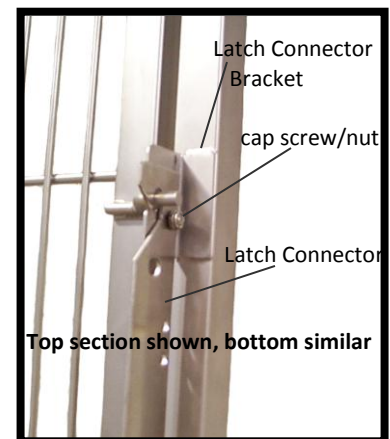

Figure 62: Removing the Latch Connector
2. With a Phillips screwdriver and a 7/16in. wrench, remove the two cap screws and nuts that hold the latch connector to the two latch brackets (Figure 62) and remove the old latch connector.